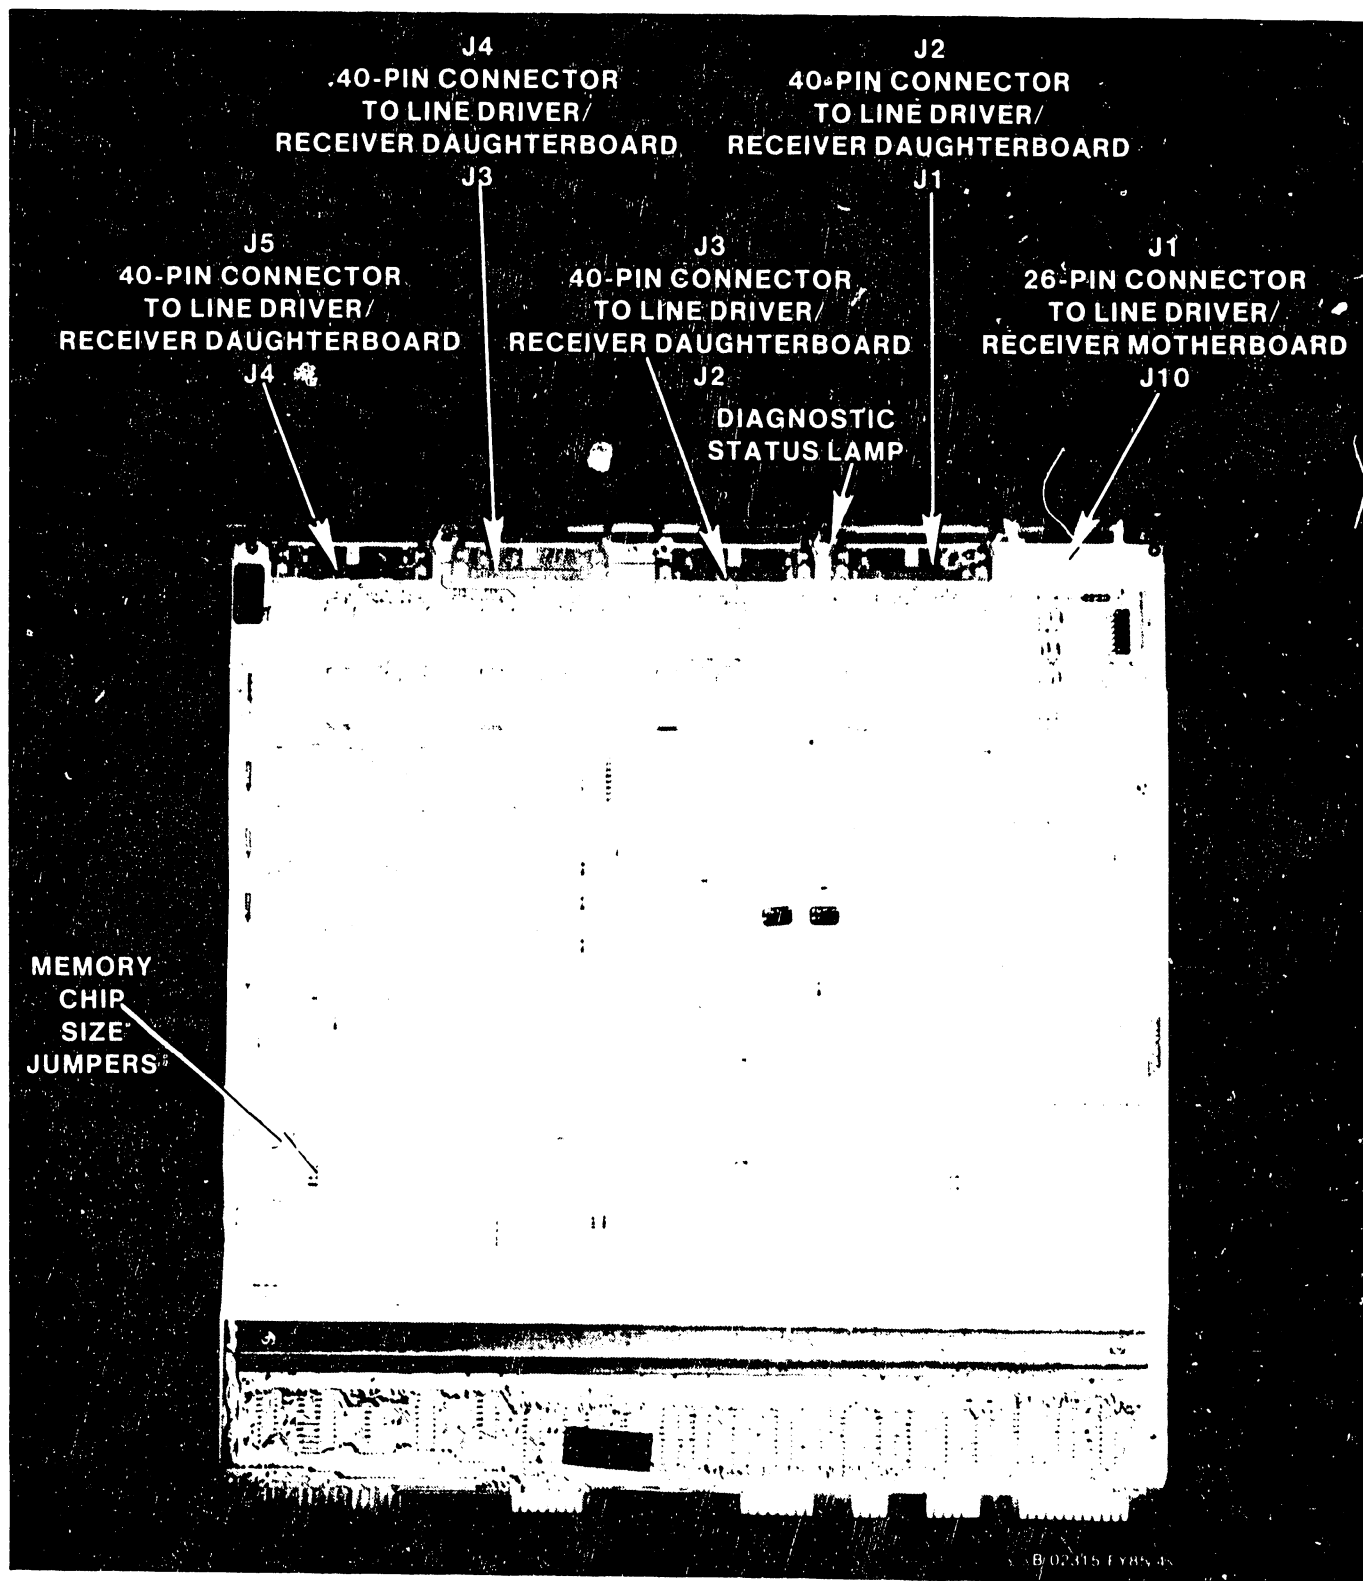
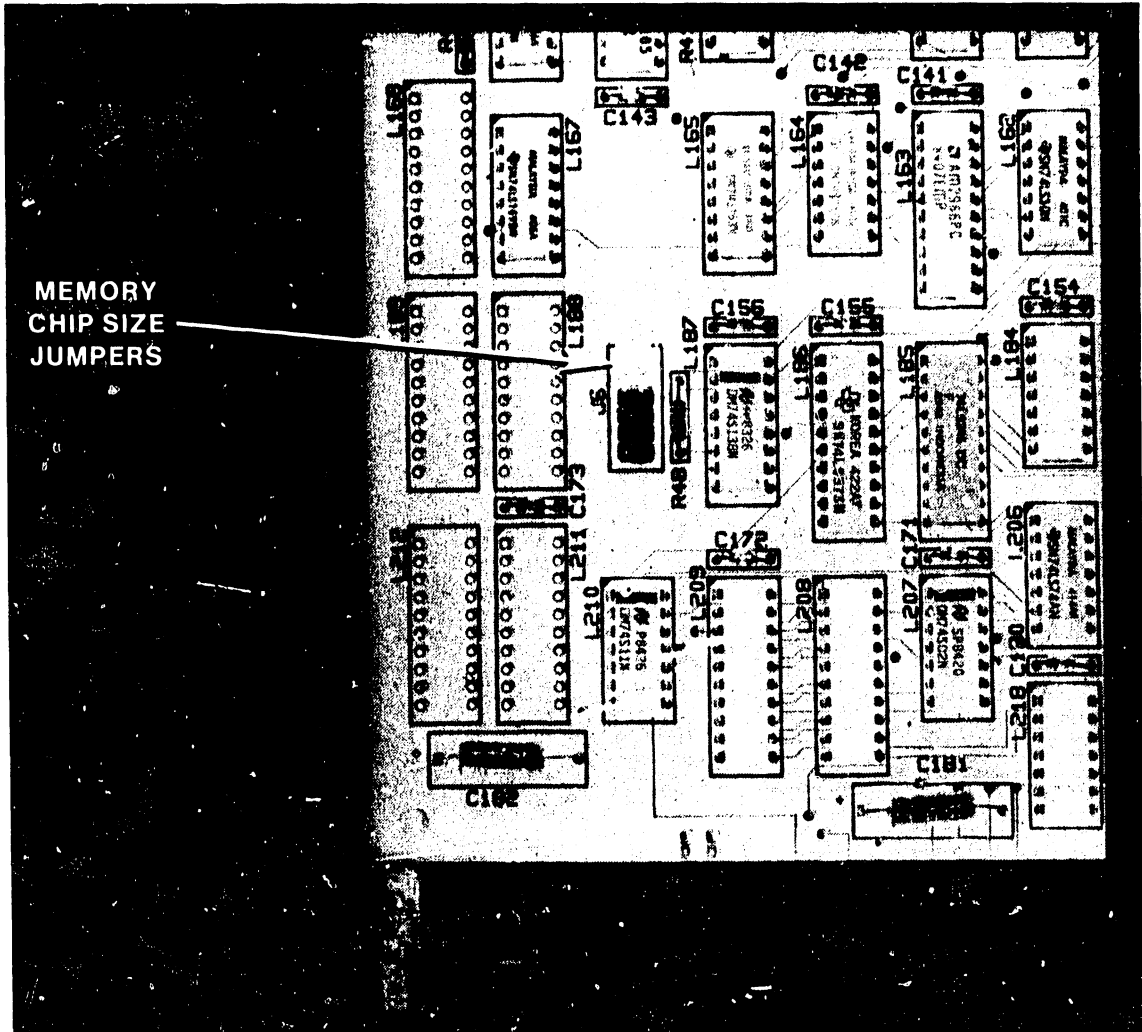

Figure K-5. 210-8168 Controller Board
Figure K-6. 210-8168 Memory Chip Size Jumpers
4. Ensure that the memory chip size jumpers on the controller board (figure K-5 above) are in the position shown below in figure K-6. These jumpers determine the type of memory chip used. Presently only 64K RAM chips are supported.